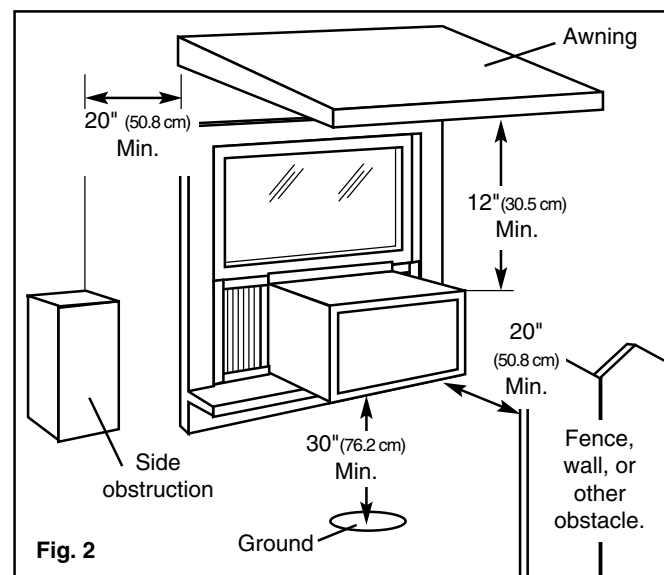

Fig. 2
- Provide sufficient clearance around the cabinet to allow for ample air circulation through the unit. See Fig. 2. The rear of the unit should be outdoors and not in a garage nor inside a building. Keep unit as far away as possible from obstacles/obstructions and at least 30" (76.2 cm) above the floor or ground. Curtains and other objects within a room should be prevented from blocking the air flow.